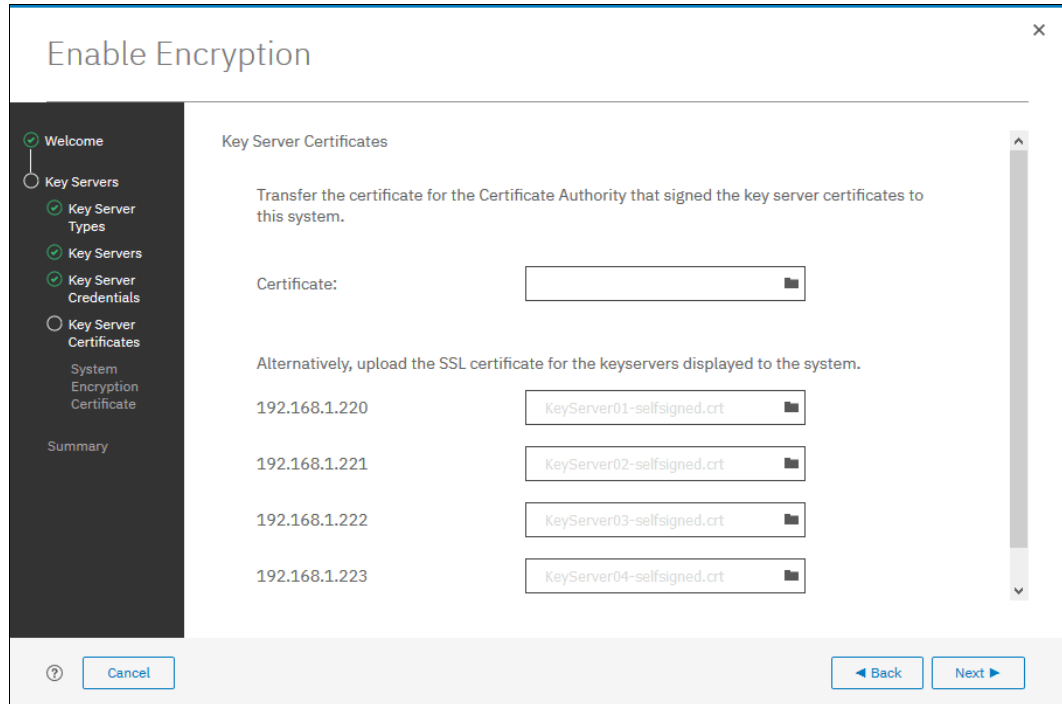

Figure 13-45 Uploading SafeNet KeySecure key servers certificate
6. Enable secure communication between the IBM Spectrum Virtualize system and the SafeNet KeySecure key servers by uploading the key server certificate (from a trusted third party or a self-signed certificate), or by uploading the SSL certificate of each key server directly. After uploading any of the certificates in the window that is shown in Figure 13-45, click **Next** to proceed to the next step.